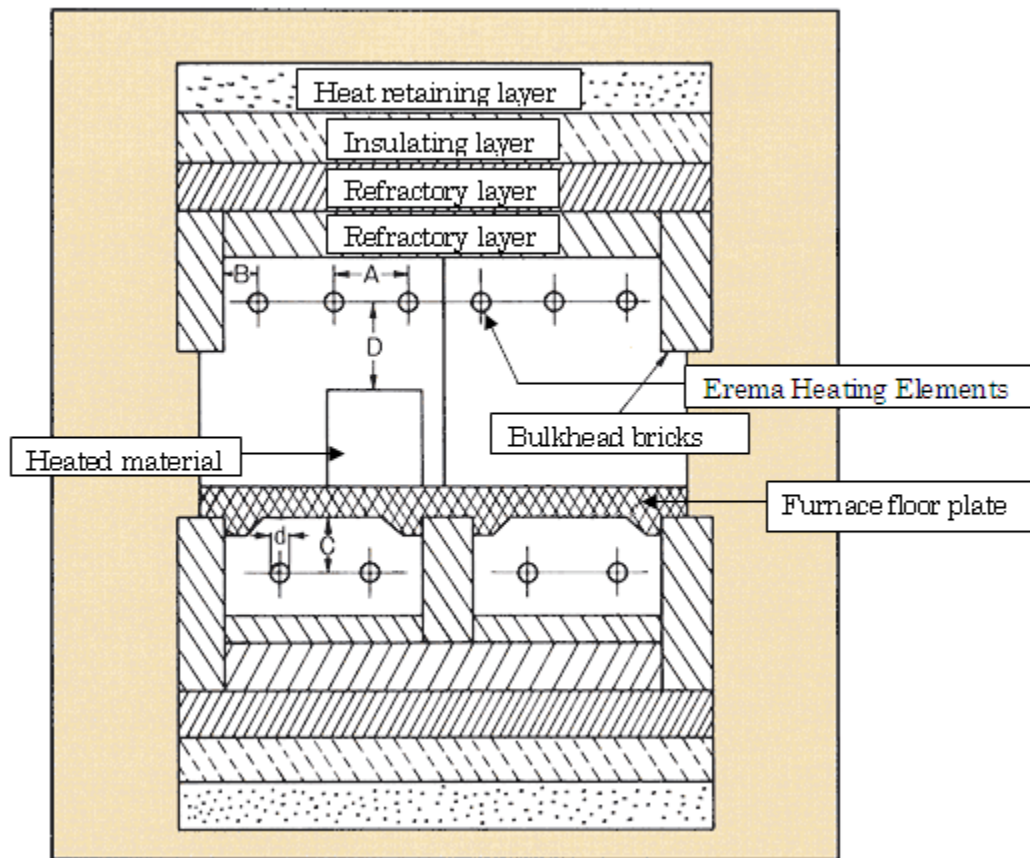

Fig 6) Installing space of heating elements
- 9) For safety, it is recommended to further increase the space between heating elements than the value shown in Fig.6.